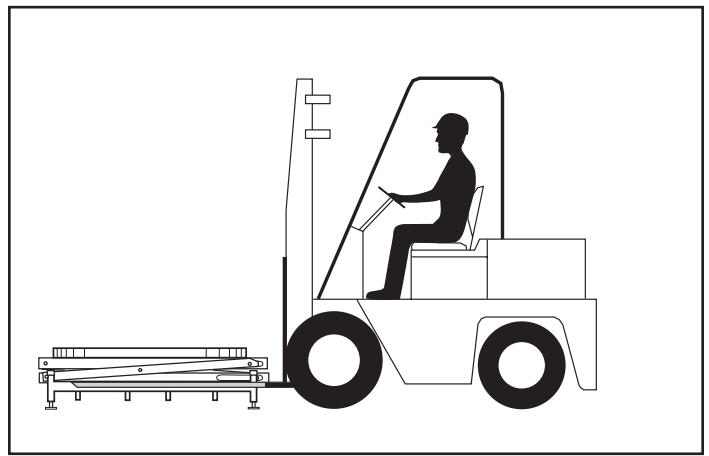

Fig. 9 Moving the Pallet Pal
2. Insert the forks into the pockets in the base frame. See Fig. 9.